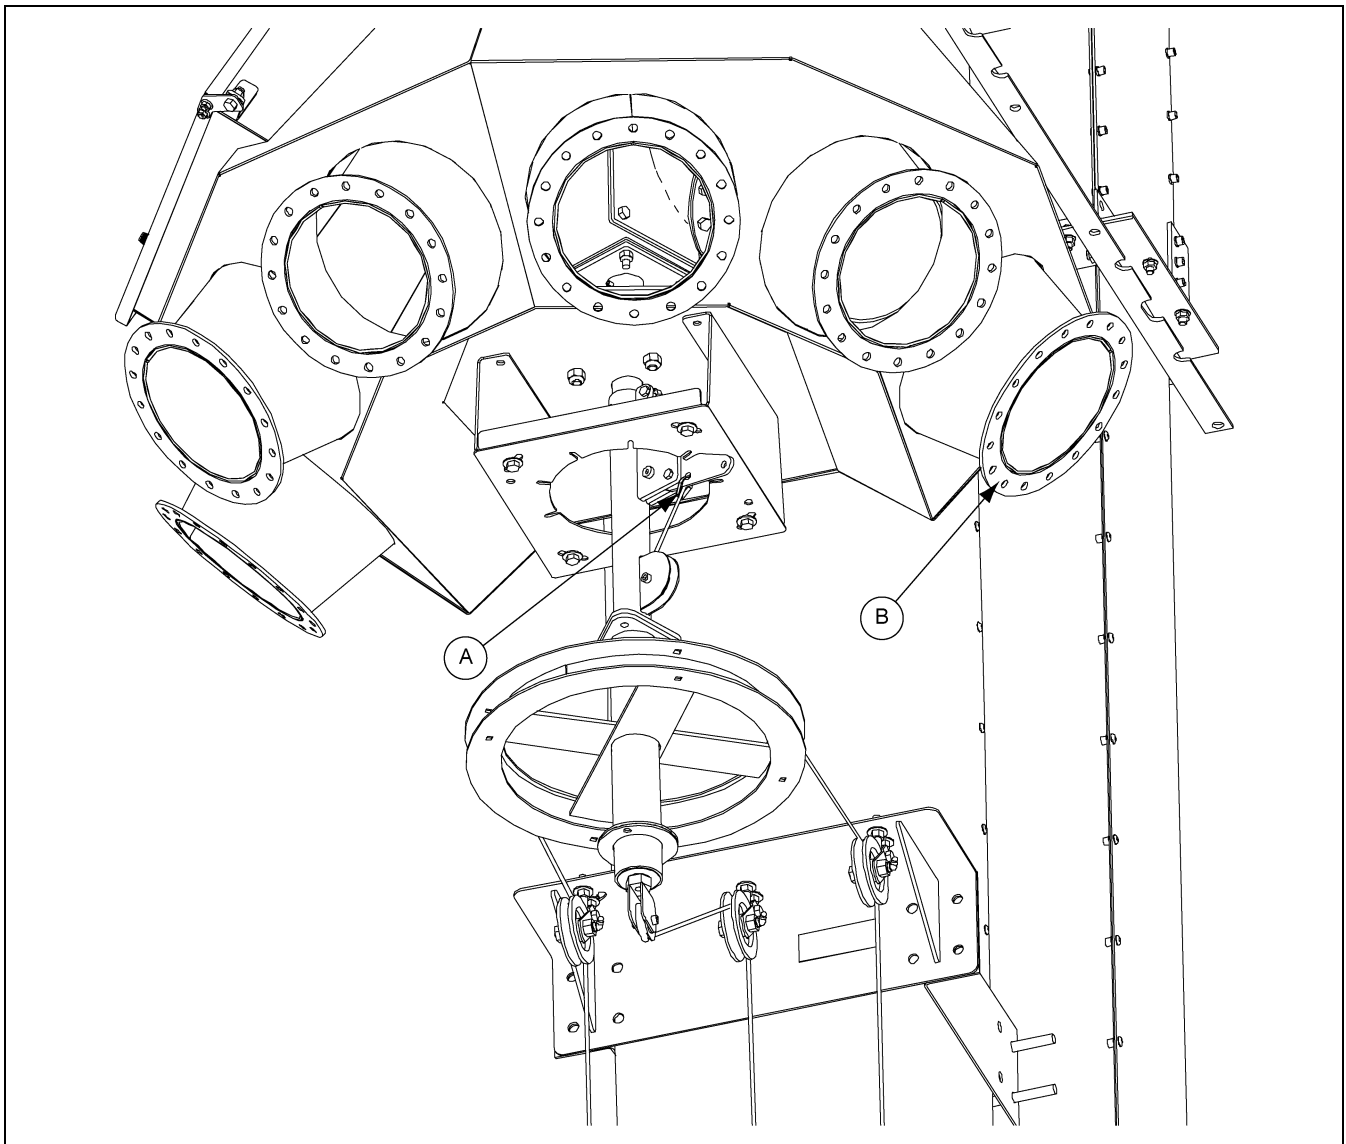

Figure 5M
1. Place the discharge spout index trigger to the far right as shown in *Figure 5M*.